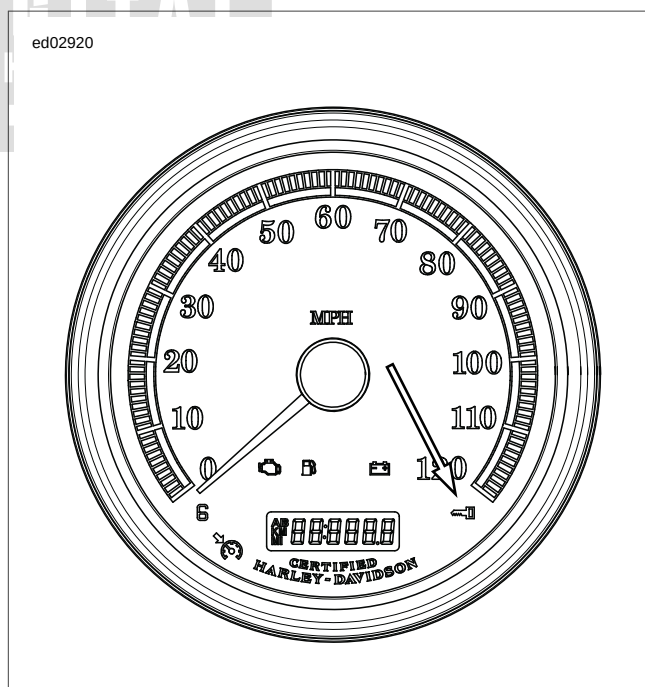

Figure 3-9. Security Lamp (Key Icon) (Typical)
- See Figure 3-9. When the Ignition Switch is turned to ON, the security lamp will illuminate for approximately four seconds and then turn off.